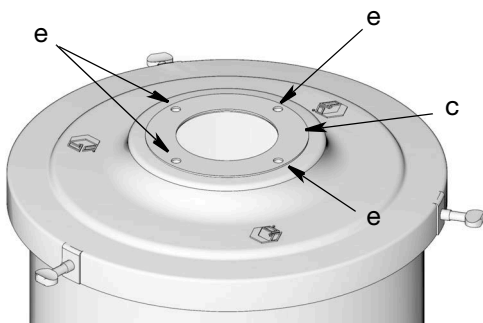

FIG. 7
- Verify the gasket (c) is in place on top of the reservoir cover, laying flat, and that the holes (e) in the gasket align with the holes in the cover (FIG. 7).